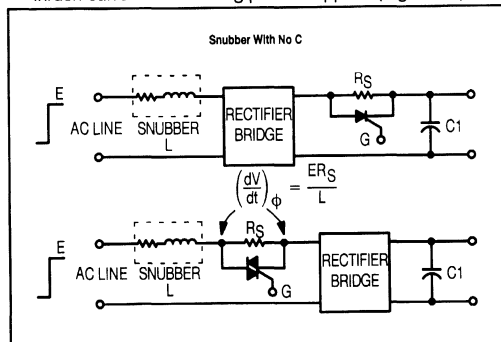

Figure 25. Surge Current Limiting For a Switching Power Supply
2. The snubber works because the inductor controls the rate of current change through the resistor and the rate of capacitor charging. Snubber design cannot ignore the inductance. This approach suggests that the snubber capacitance is not important but that is only true for this hypothetical condition. The snubber resistor shunts the thyristor causing unacceptable leakage when the capacitor is not present. If the power loss is tolerable,  $\frac{dV}{dt}$  can be controlled without the capacitor. An example is the soft-start circuit used to limit inrush current in switching power supplies (Figure 25).